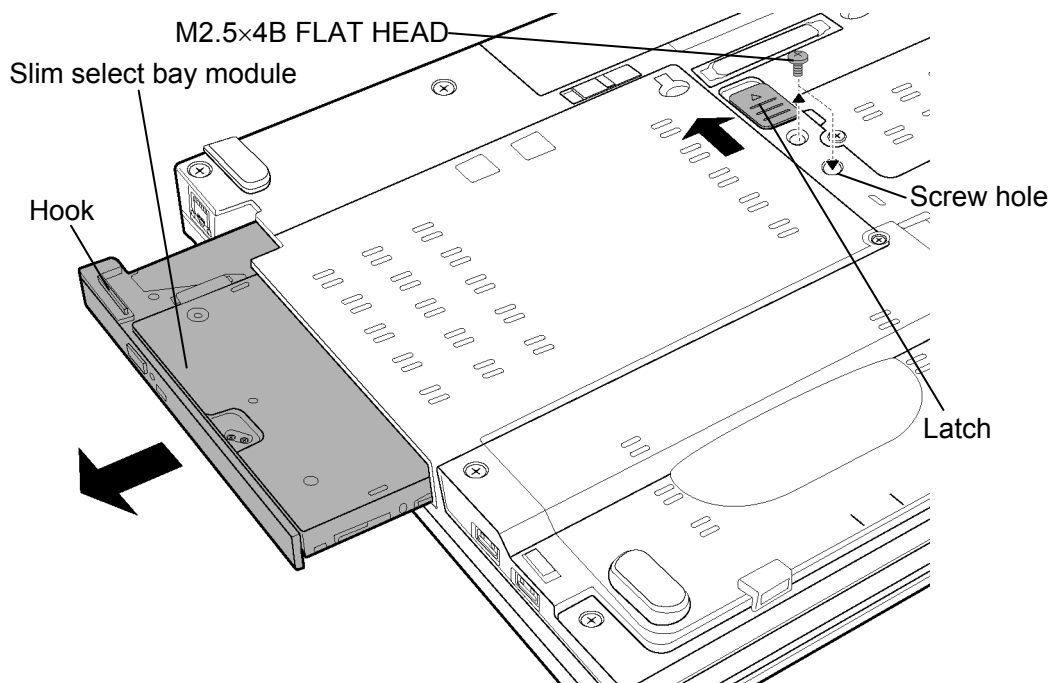

Figure 4-9 Removing the slim select bay module
The following describes the procedure for removing the slim select bay module. (See Figure 4-9 and 4-10.)
2. While sliding the **latch** toward the arrow direction in the Figure 4-9 and pull out the **slim select bay module** while holding the **hook** to disconnect it from the connector of the system board.
The following describes the procedure for installing the slim select bay module. (See Figure 4-9 and 4-10.)